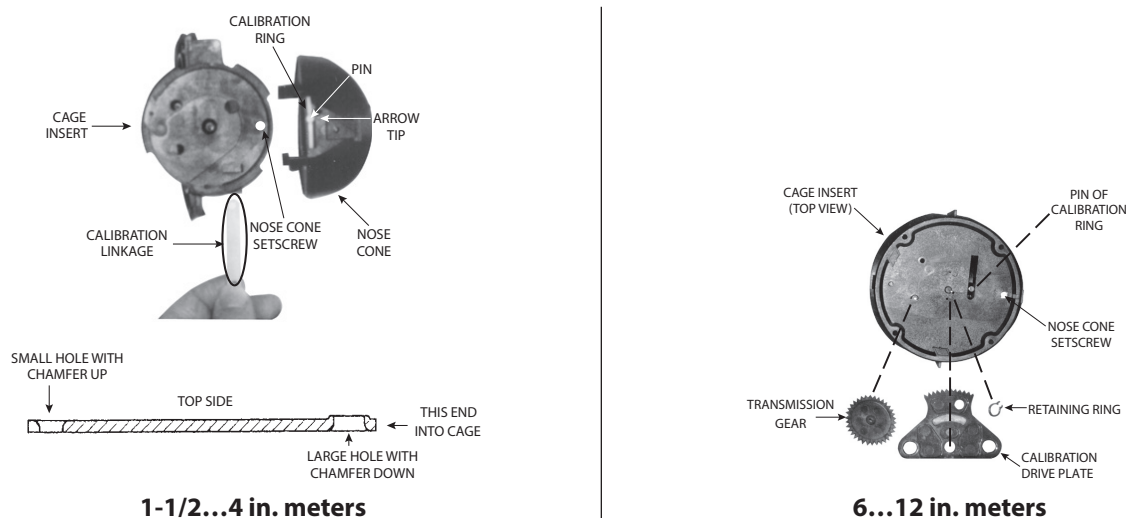

Figure 4: Calibration ring/linkage assemblies
2. Take hold of the nose cone/straightening vanes and turn them clockwise, thereby disengaging the calibration linkage from the pin on the calibration ring and unlocking the bayonets of the nose cones from the cage (see Figure 4).
1. Align the pin on the perimeter of the calibration ring with the arrow tip on the nose cone assembly (see Figure 4).
2. For 1-1/2...4 inch sizes, install the calibration linkage into the cage with the larger hole first to engage the calibration ring pin, with the side of chamfered edge of the hole towards the nose cone assembly (see Figure 4).